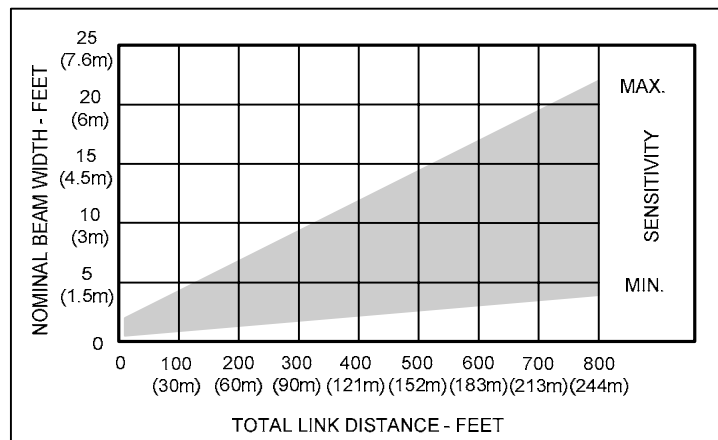
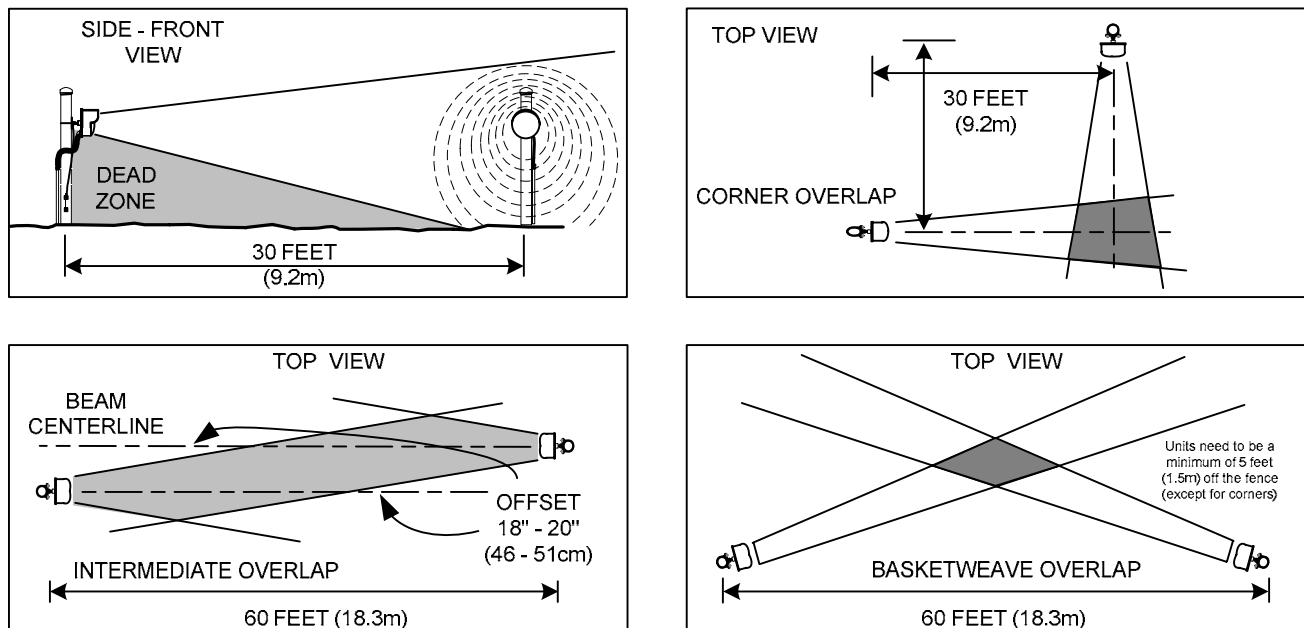
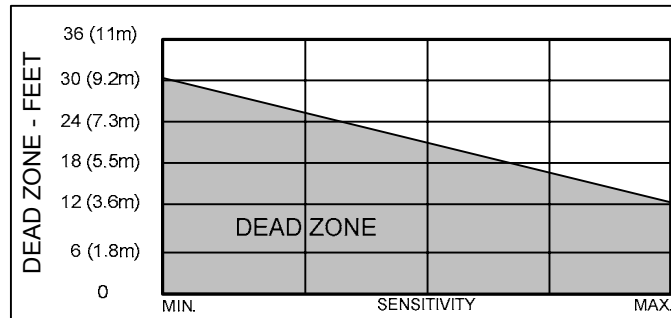

Figure 4 – Typical Maximum Horizontal Pattern
Figure 6 – Overlaps and Dead Zone
Figure 7 – Sensitivity vs Dead Zone
Figure 4 illustrates how pattern width varies with Transmitter-Receiver distance and sensitivity setting. Actual patterns will vary somewhat with site topography and surface condition. Generally, lower mounting height or rougher surface will increase pattern width. For example, if the total link distance is 500 feet (152.4m) and the sensitivity adjustment set to mid-point, Figure 4 indicates the detection pattern width to be 7.5 feet (2.3m).
Protection pattern below centerline will tend to fill area between beam centerline and ground except for a “dead zone” immediately in front of and below Transmitter and Receiver. This zone is best protected by overlapping links at ends and corners as shown in Figures 6.
Figure 7 shows amount of overlap required to detect against hands and knees crawling intruders, as a function of “Sensitivity” setting. It is always recommended to keep the sensitivity setting at the lowest possible value to minimize nuisance alarms but maintaining a high probability of detection.
- 1.2 Beam Diameter: 2 feet (.6m) to 22 feet (6.7m) depending upon link distance and “Sensitivity” setting per Figure 4.
The clear area required for a MicroWave 330 installation depends upon the distance to be covered by the link. Protection patterns for various conditions are given in Figures 4. In each installation the clear area must be at least as large as the maximum protection pattern.
For maximum security it is necessary to overlap the ends of links so that the “dead zone” below and immediately in front of the adjoining link is protected. A 60-foot (18m) overlap is recommended at intermediate points, and a 30-foot (9.2m) overlap is recommended at corners. If site demands shorter overlap, increased sensitivity will reduce dead zone, per Figure 7, but will also widen beam, per Figure 4. The offset of overlapping links in line should be 18 inches (46cm) as shown in Figure 6. Additional protection may be added at critical points by installing SOUTHWEST MICROWAVE, INC. Model 380 or 385 Transceiver, Model 415 PIR, MS15/MS16 Dual Tech sensor or stacking MicroWave 330 links or stacking with Model 300B microwave link.